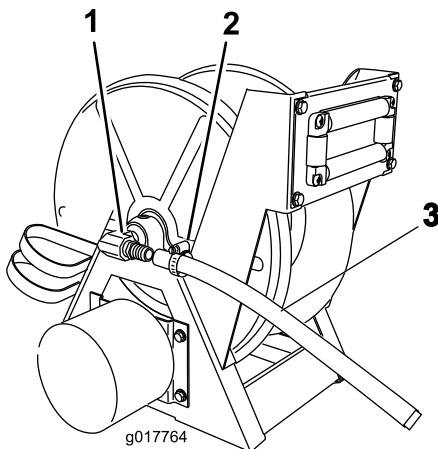

Figure 11
3. Install the hose end over the right angle barb on the tank sided of the hose reel assembly (Figure 11).